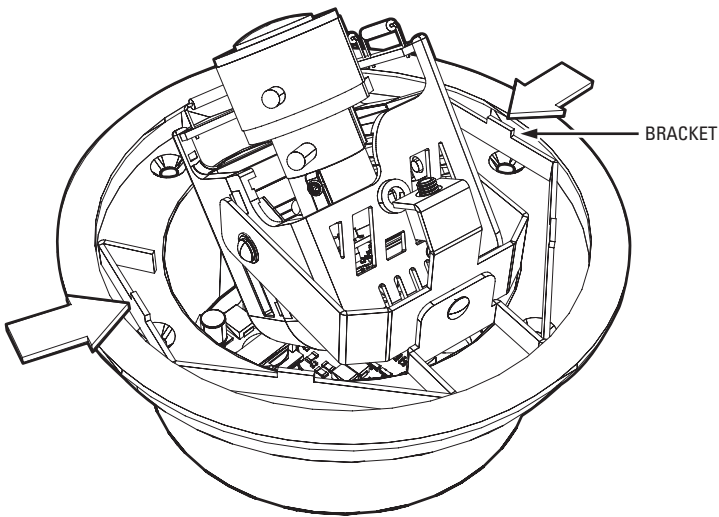

Figure 5. Camera Module Bracket
1. Gently squeeze the bracket and pull the module out of the back box (refer to Figure 5).
3. Gently squeeze the bracket, place it against the groove inside back box, and gently release (refer to Figure 5 on page 10).